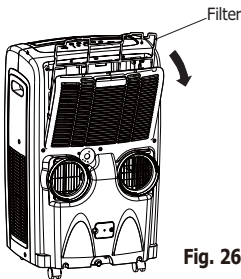

Fig. 26
- This unit has a filter. Grasp the upper panel tab and take off the filter which behind the grill of the back panel (Fig.26).